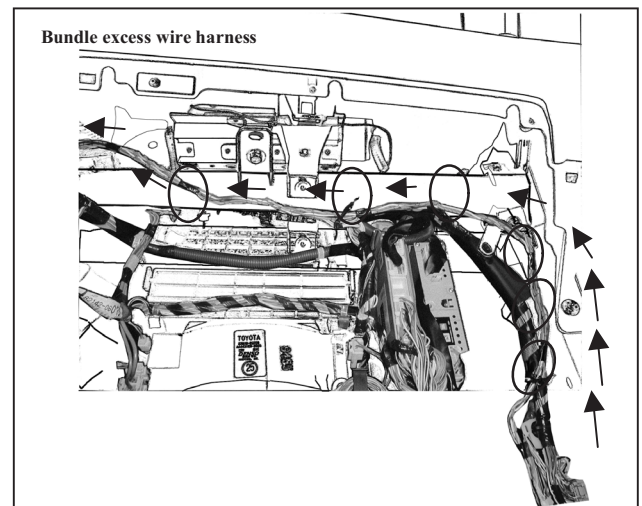

Figure E2
- ➡ 3. Route wire harness from scuff plate clips up through the glove compartment to back of head unit. (See Figure E2)
- ➡ 6. Secure the wire harness using the six wire ties as indicated by the circled areas in Figure E2.
- ➡ 7. Bundle any excess wire harness with the wire tie closest to the radio (Figure E2).